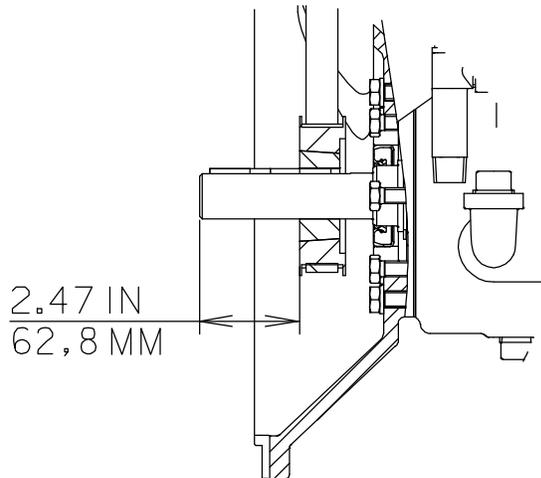

Figure 8. Drive Sprocket Positioning
See Figure 4 and install the key (48) in the shaft keyway, making sure to leave room in the keyway for the drive key (34, Figure 5). Install the sprocket (46) and bushing (47) on the shaft to the dimension shown in Figure 8.